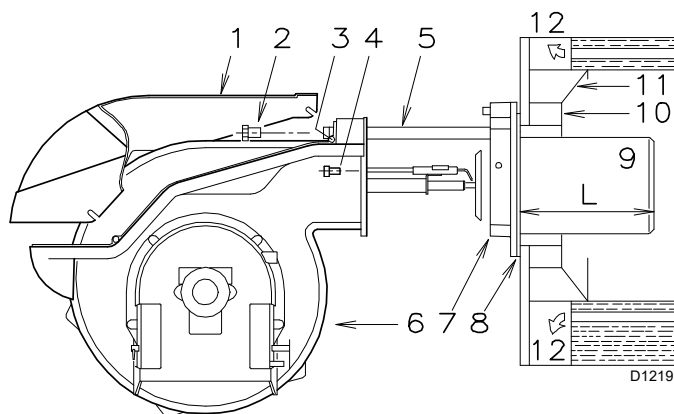

Fig. 11
Once this operation has been carried out (if it was required), secure flange 7)(Fig. 11) to the boiler plate interposing the supplied gasket 8). Use the 4 screws provided after having protected the thread with antiscrudding products.
- Retract the burner on its slide bars as shown in Fig. 11 on page 15.